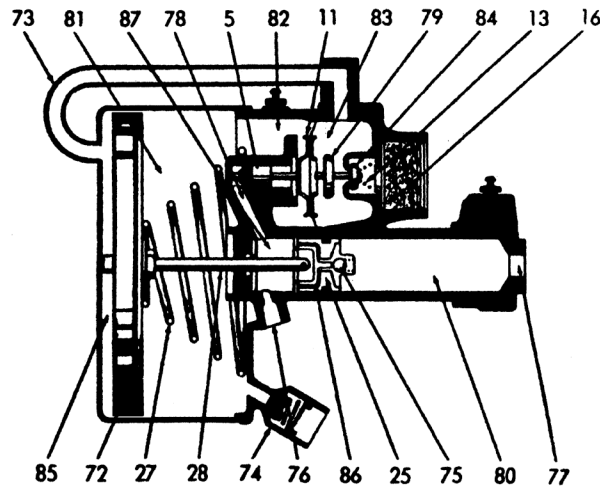
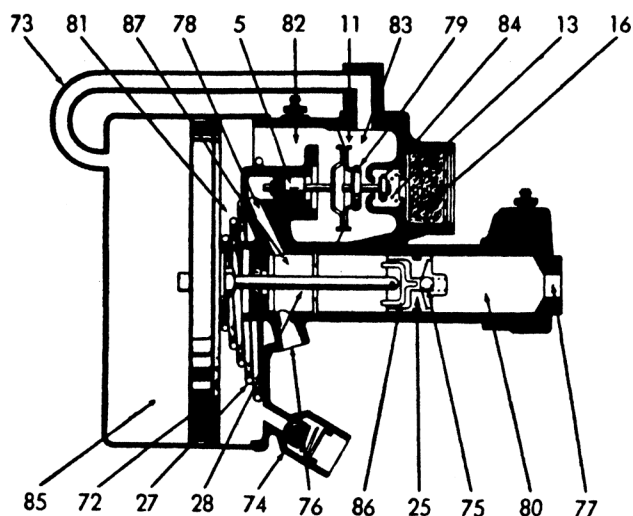

Fig. 3
Fig. 4
In released position (Fig. 3) power piston (72) is held to the left in the vacuum cylinder by return spring (27). In this position, yoke (86) of hydraulic piston (25) is against the piston stop washer and ball of check valve (75) is lefted from its seat. Valve piston (5) is at its leftward position separating poppet (79) from its seat at diaphragm assembly (11).
When the brake pedal is applied, fluid under pressure by-passes ball check valve (75) and is transmitted to slave cylinder chamber (80) and to the wheel cylinders. At the same time pressure is built up at the left of valve piston (5), moving the piston to the right, contacting the diaphragm seat with the vacuum poppet (79) and opening atmosphere poppet (84). (Fig. 4).
When the unit is fully applied (Fig. 4), piston (5) is completely to the right against its stop and atmosphere poppet (84) is lifted from its seat. Cylinder chamber (85) is therefore completely exposed to atmosphere and maximum possible differential exists across the power piston. Any increase in hydraulic output pressure comes from the master cylinder only. When the pressure is released from the left side of piston (5), the piston moves to the left (Fig. 3), seating atmosphere poppet (84), after which the vacuum differential pushes the seat on diaphragm assembly (11) away from vacuum poppet (79). Manifold vacuum from chamber (82) is again communicated to cylinder chamber (85) through valve chamber (83) and tube (73). Spring (27) returns power piston (72) and hydraulic piston (25) to the released position. Yoke (86) lifts the ball of check valve (75) from its seat, opening chamber (80) to chamber (87). This allows for any fluid expansion or contraction in the lines to be compensated for from the master cylinder reservoir.